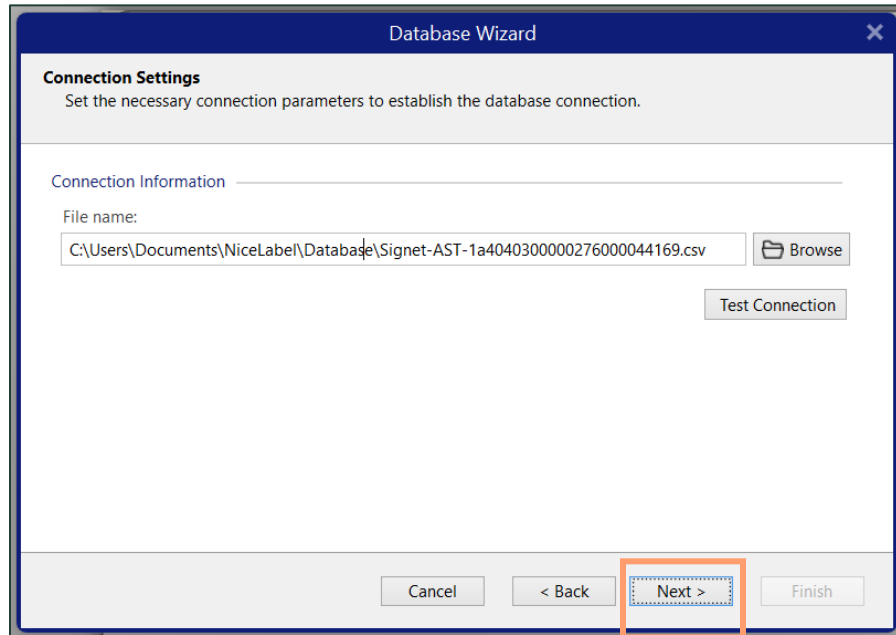

Figure 18: New Label Set Up Wizard with file selected
12. Select open, and once you see the File Name in the preview, then select Next – see figure 18.